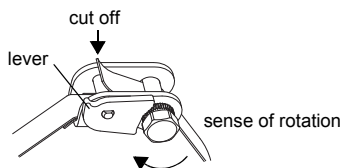

Fig. 7.11: Ratchet clasp with tension strap
- Cut off the protruding tension strap (see Fig. 7.11).